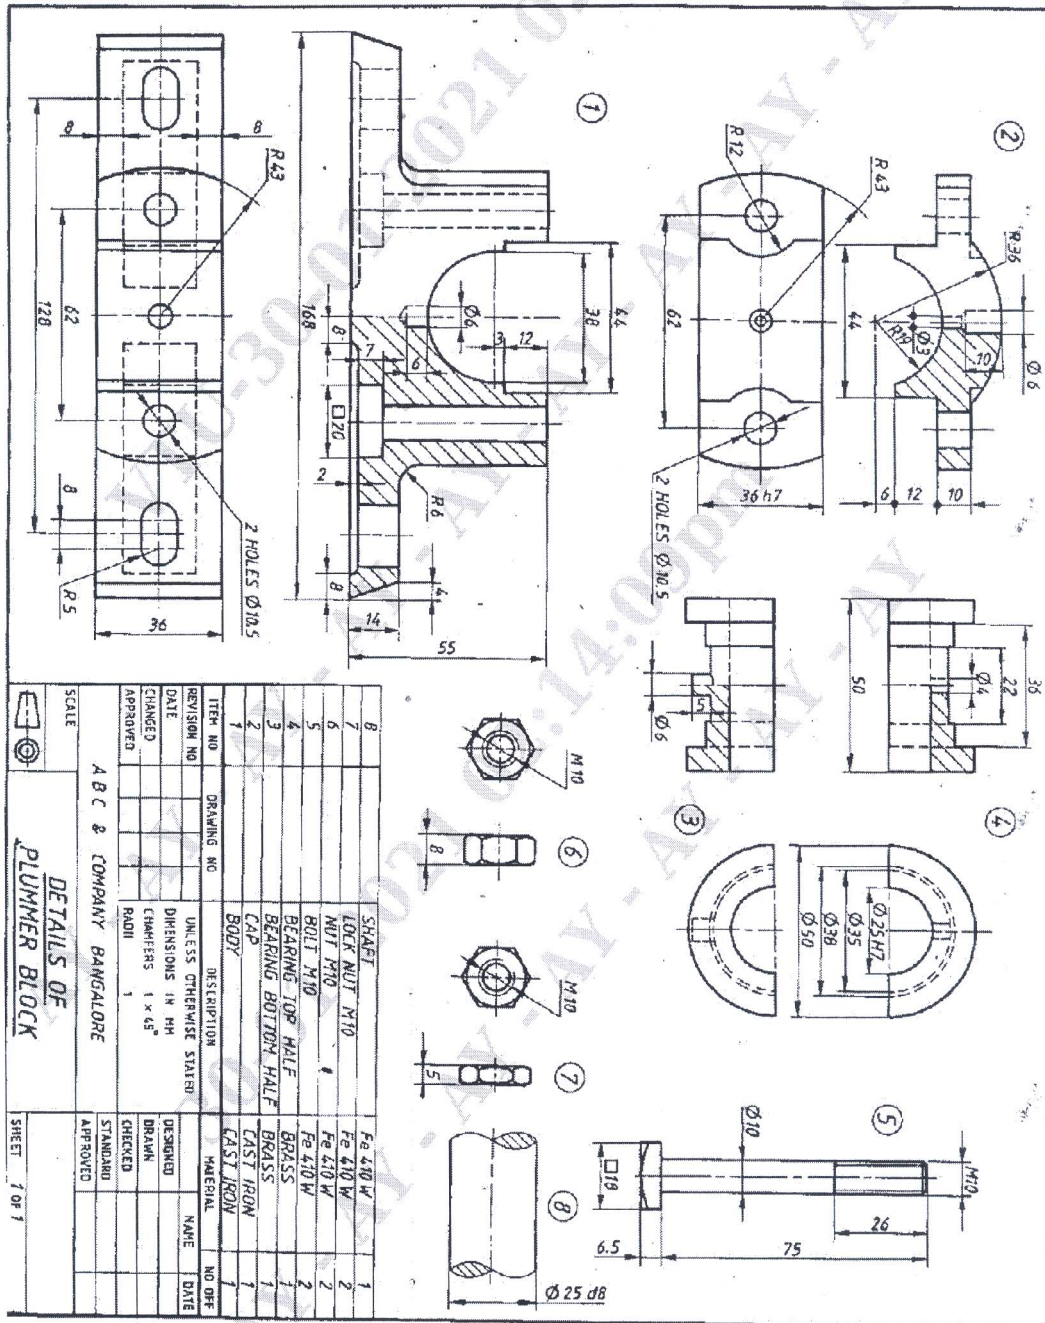

Figure 2
Q.No.5 Following figure 2 shows the details of Plummer block. Assemble the parts of Plummer block and draw i) Right half sectional view ii) Top view. **(50 Marks)**